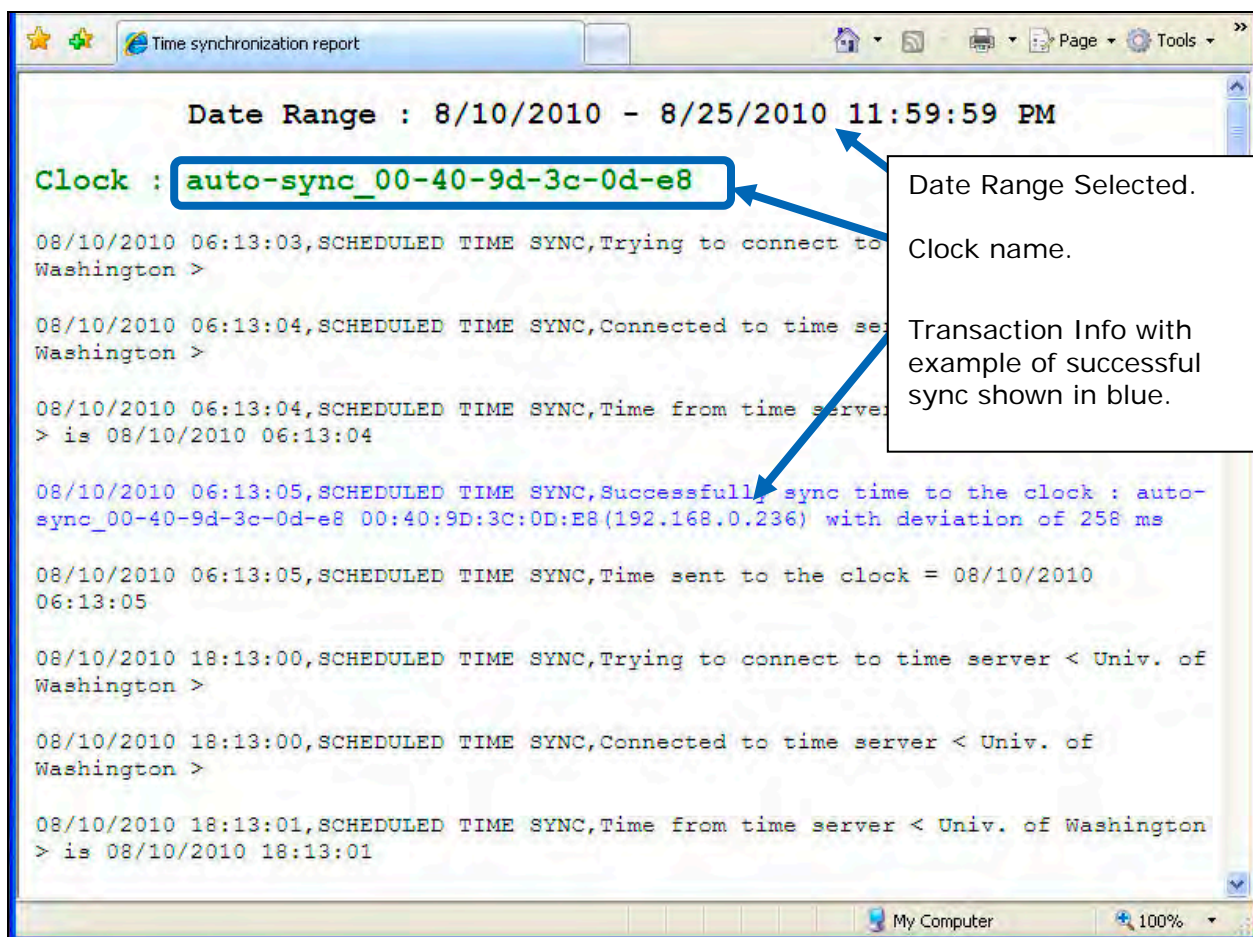

Figure 5-10. Example of Transaction Report Created with Auto-Sync Utility.
- Create a centralized transaction report for multiple Auto-Sync Time Clocks using all the transaction data or a selected data range. For example, create an HTML formatted report of transactions for August 10, 2010 through August 25, 2010 (see Figure 5-10).